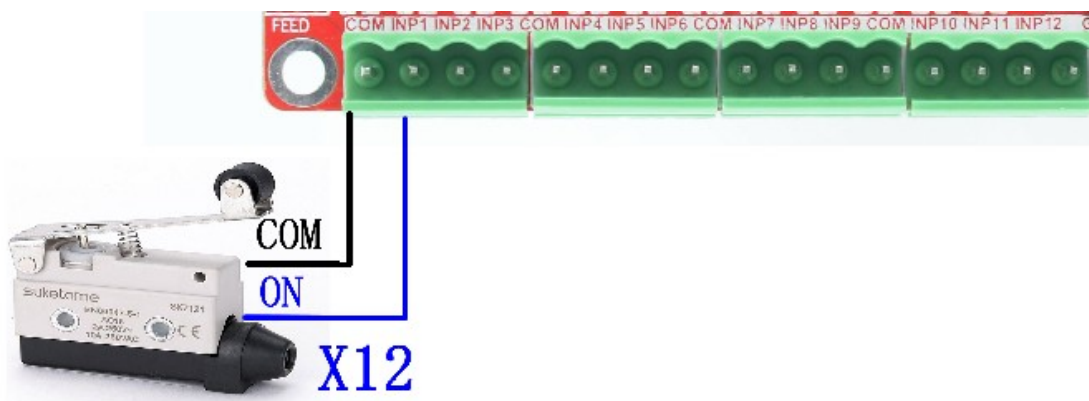

Figure2-2. normal Tact limit switch connection
- B) 5V General INPUT PORT, IN1-12, see as Figure 2-2, it is defined as COM, IN1, IN2, IN3, COM, IN4, IN5, IN6, COM, IN7, IN8, IN9, COM, IN10, IN11, IN12 from left to right, The interface uses opto-isolated, using common positive input, COM is used as the common Port. Wiring methods see as Figure 2-2.